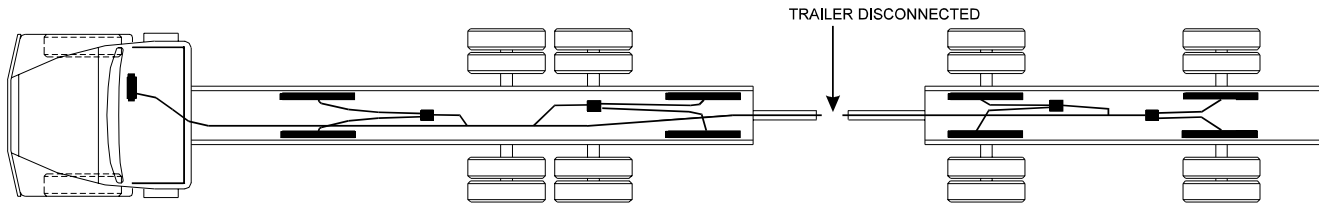

Figure 2-A: Disconnected Trailer
**Manually disconnect all trailer VSL Vulcoders** as shown in figure 2-A, and confirm that if the truck has two Vulcoders, that one is set up as a Front and one as a Rear per installation instructions, section 1.5.